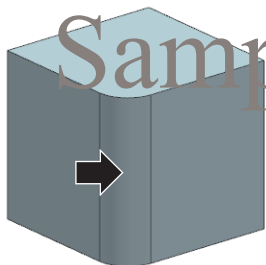

Fig 6-24 A Block
2. Apply an R20 edge blend as shown in Fig 6-24.